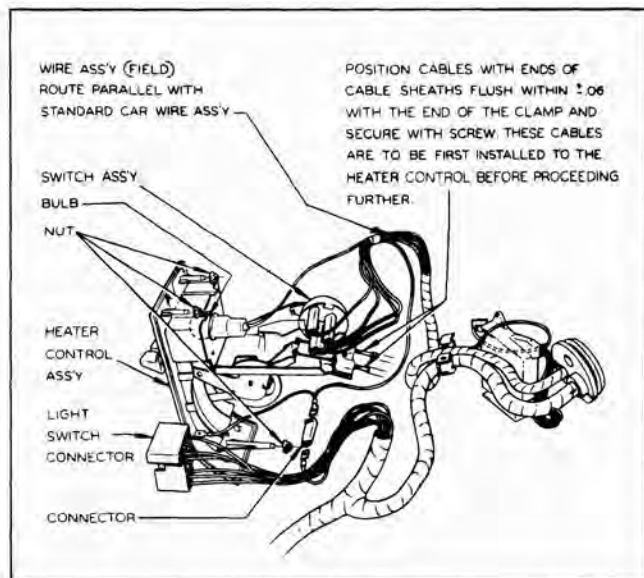

Fig. 2-17 Connections at Tempest Control Panel
6. Replace by reversing the above procedure (Fig. 2-17).